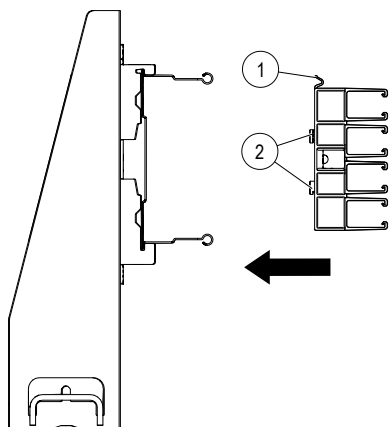
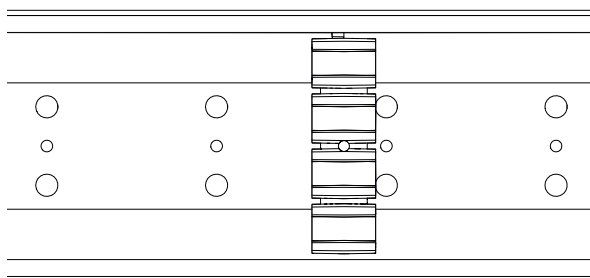

Fig. 14: Locking clip (1) and pin (2) of hanger clamp 0812
Fig. 17: Install hanger clamp 0812 onto ProShell support profile rail 128
1. Hook the locking clip (1) onto the upper frame of the ProShell support profile rail so that by screwing in the hanger clamp, the pins (2) are sunk onto the holes of the ProShell support profile (see Fig. 14 to Fig. 17).